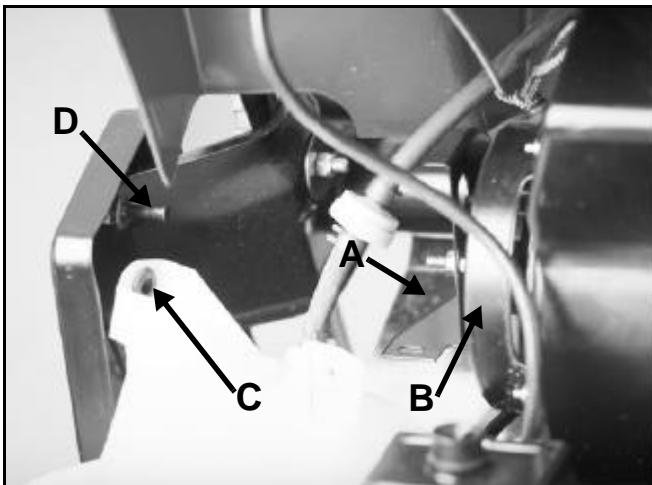
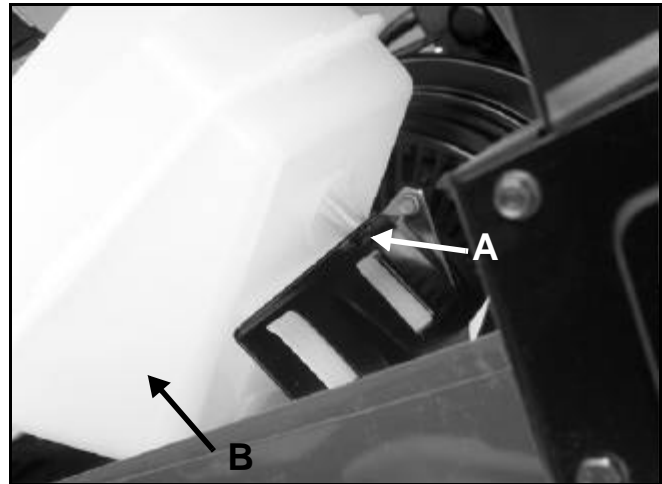

Figure 53 1854-18
Figure 54 1854-14
5. On most models, the fuel tank is mounted at 3 points with capscrews and locknuts on two of the points, the third point is a pin on the chassis that goes through a rubber grommet (Figure 53) on the bottom of the tank. CCR1000's use a tongue and groove system and one (Figure 54) mounting screw. Remove them and lift the tank out. Now disconnect the fuel line. **Caution:** If the tank had fuel in it, there will be some remaining in the fuel line. Be prepared to clamp the end of the fuel line or drain it. **Note:** Do not use a screw or bolt to plug the end of the fuel line. The threads can damage the inside of the fuel line and prevent it from sealing.